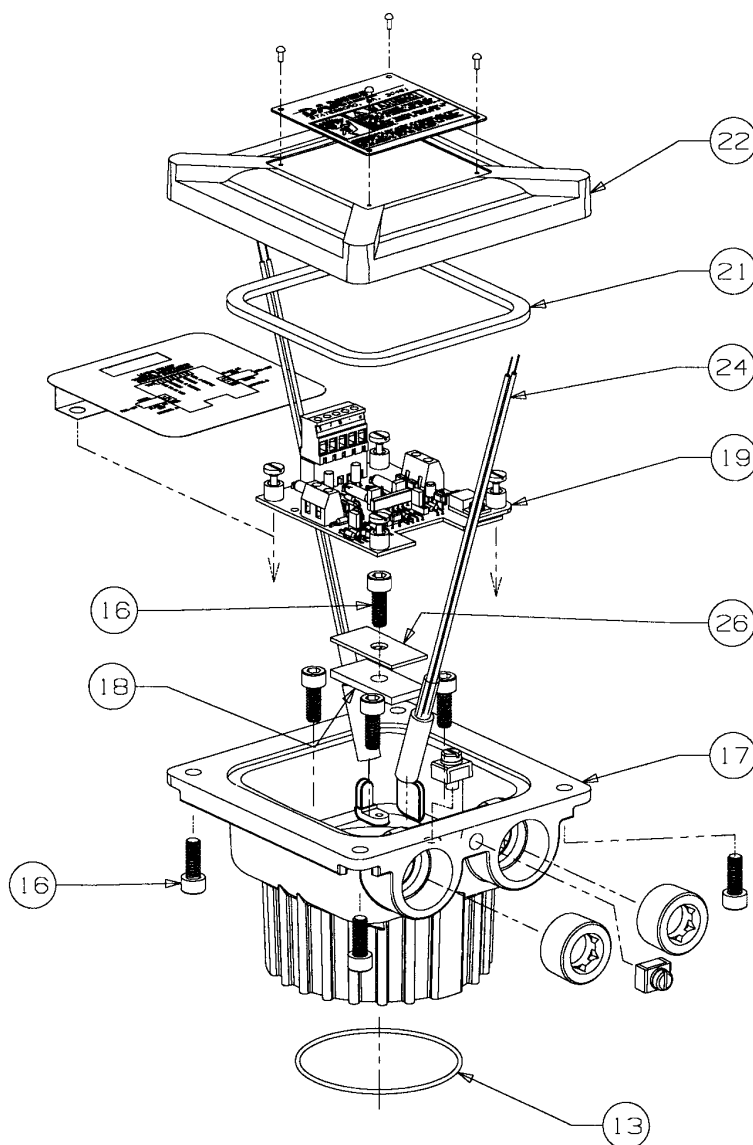

Figure 7-1. UMB Assembly - All Sizes (Reference Table 7-1)
2. Disconnect conduit connections to the Series 1500 Turbine. (Reference Figure 7-1)
- a. Remove screws (item 52) and top cover (item 16) of the UMB.
- b. Disconnect conduit connections from terminal board TB1 (assembly item 56).
See Figures 7-1 through 7-4.
Table 7-1. UMB Assembly (All Sizes) (Reference Figure 7-1)